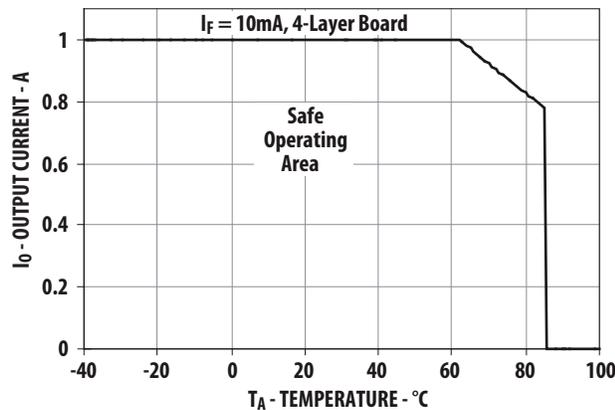

Figure 1. Maximum Output Current Rating vs Ambient Temperature (ASSR-1510-003E)
- For derating, refer to Figure 1, 2, 3 and 4.
Derating curves are shown in Figures 1, 2, 3 and 4, specifying the maximum output current allowable for a given ambient temperature. The maximum allowable output current and power dissipation are related by the expression  $R_{ss}=P_o(max)/(I_o(max))^2$  from which  $R_{ss}$  can be calculated. Staying within the safe area assures that the steady state MOSFET junction temperature remains less than 125°C.